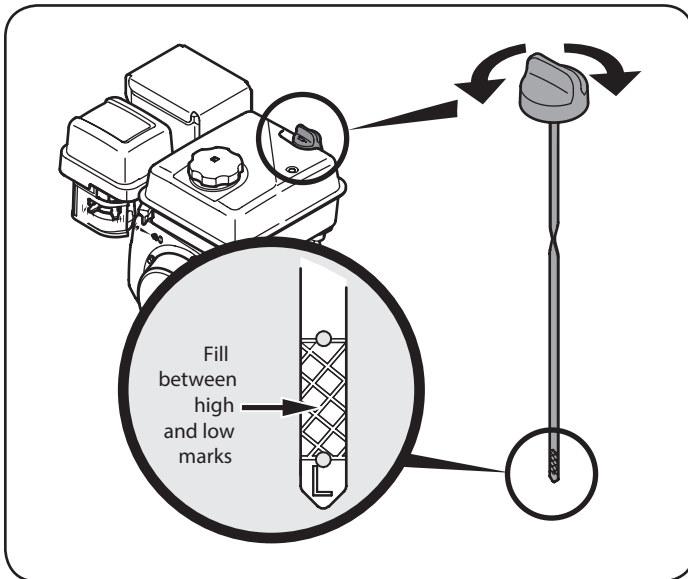

Figure 7
2. Remove the oil filler cap/dipstick and wipe the dipstick clean. See Figure 7.
4. Remove the oil filler cap/dipstick. If the level is low, slowly add oil until oil level registers between high (H) and low (L), Figure 7.